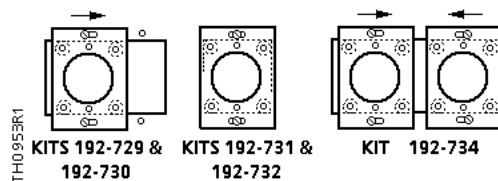

Figure 10. Mounting Plate Fastening.
2. Fasten mounting plate or plates to wall or rough-in box as shown in Figure 10.